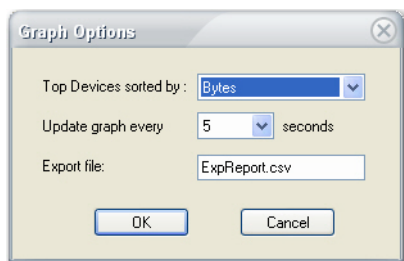

Figure 15-49: Configuring graph settings
- 1) Click  at the top of the screen. The Graph Options dialog box appears. See Figure 15-49.